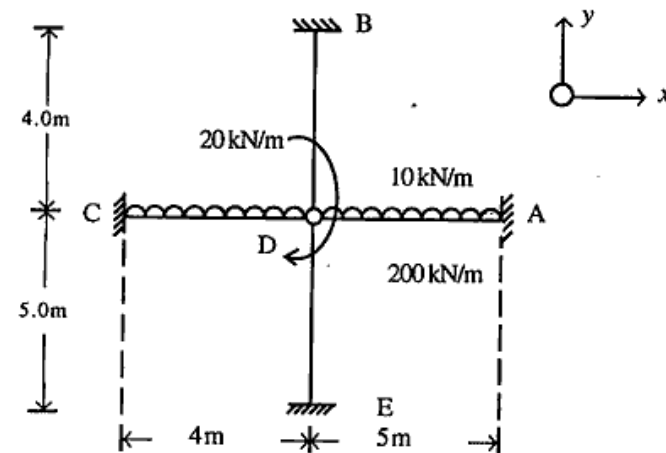

Figure 7
7. Analyse the structure shown in figure 7 using stiffness method. The members are 350 mm in width and 700 mm in depth. Take $E = 1200 \text{ kN/cm}^2$ and $G = 600 \text{ kN/cm}^2$.